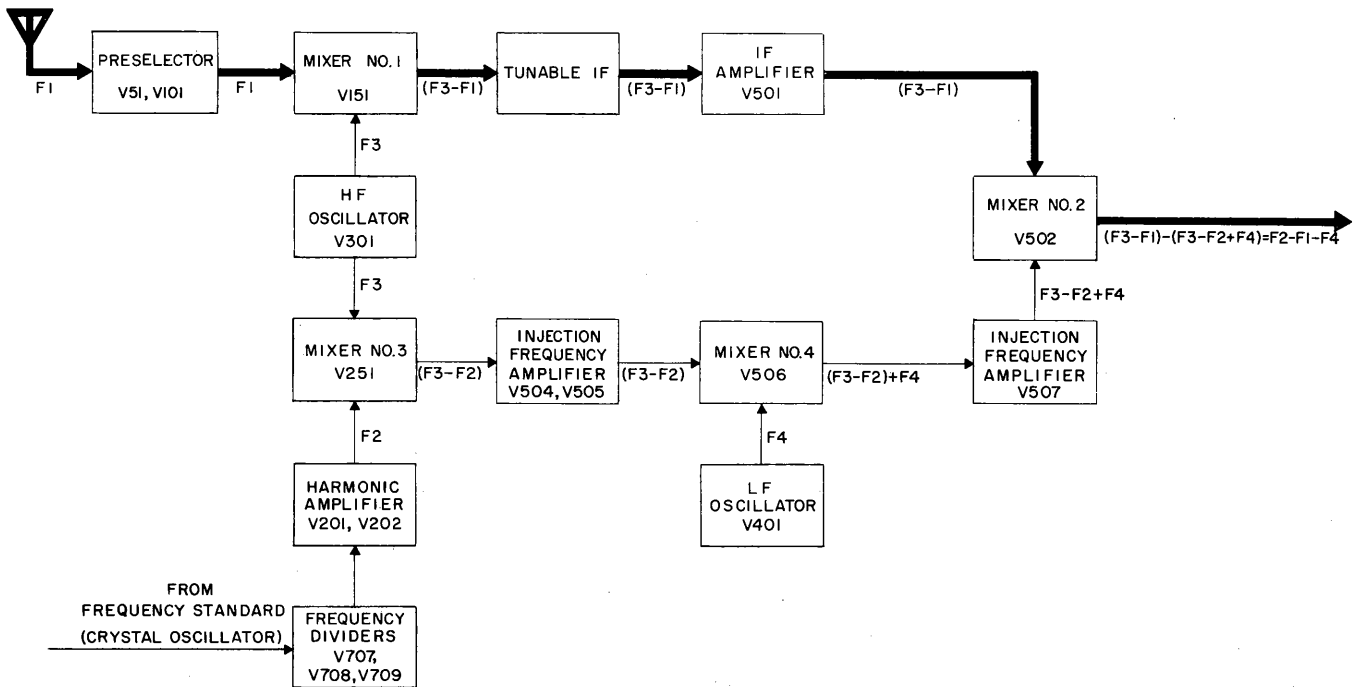

Figure 4-54. High Frequency Oscillator Drift Cancellation, Block Diagram
b. HIGH-FREQUENCY OSCILLATOR. (See figure 4-54.)—Initial frequency conversion takes place in mixer stage V151 by the combining of signals from the pre-selector (F1) and HF oscillator V301 (F3) to produce a difference frequency of  $F_3$  minus  $F_1$ . This signal is passed through the tunable IF section and IF amplifier stage V501 to mixer stage V502 for a second conversion. Without drift compensation, the latter mixer stage would ordinarily receive another signal from a second local oscillator to establish the desired second conversion frequency. This procedure, while effecting the desired conversion, in no way compensates for variations in the frequencies of the local oscillators involved, the result being corresponding variations in the difference frequency of the converted signals. To counteract this effect, the output of HF oscillator V301 (F3), besides combining with the incoming signal (F1) in mixer stage V151, mixes with a second signal originating in a crystal-controlled oscillator. This second signal is modified by frequency dividers, harmonic generator, and harmonic amplifiers to bring it to the proper frequency
Figure 4-54 indicates symbolically the frequency differences relative to signal inputs to the various mixer stages. By means of the loop arrangement, of which the HF oscillator (V301) is a part, any variation in its frequency output is transmitted equally and in the same sense to the two legs of the loop. Therefore, the difference frequency produced in common mixer stage V502 (by mixing of the signals from the legs of the loop) does not contain HF oscillator component  $F_3$ . Elimination of  $F_3$  from the output of V502 is equivalent to nullification of the effect of drift that could be caused by the presence of this signal.